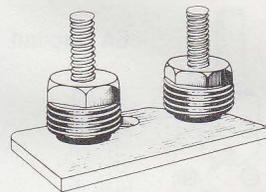

Fig. 70—5A Ground Strip
7.06 The 5A ground strip (Fig. 70) consists of a brass plate with two binding posts. It is intended for use in 10- and 16-pair NC, NE, NF, and NH cable terminals. A hole is provided in the plate of the 5A ground strip for mounting it in a cable terminal using the screw which holds